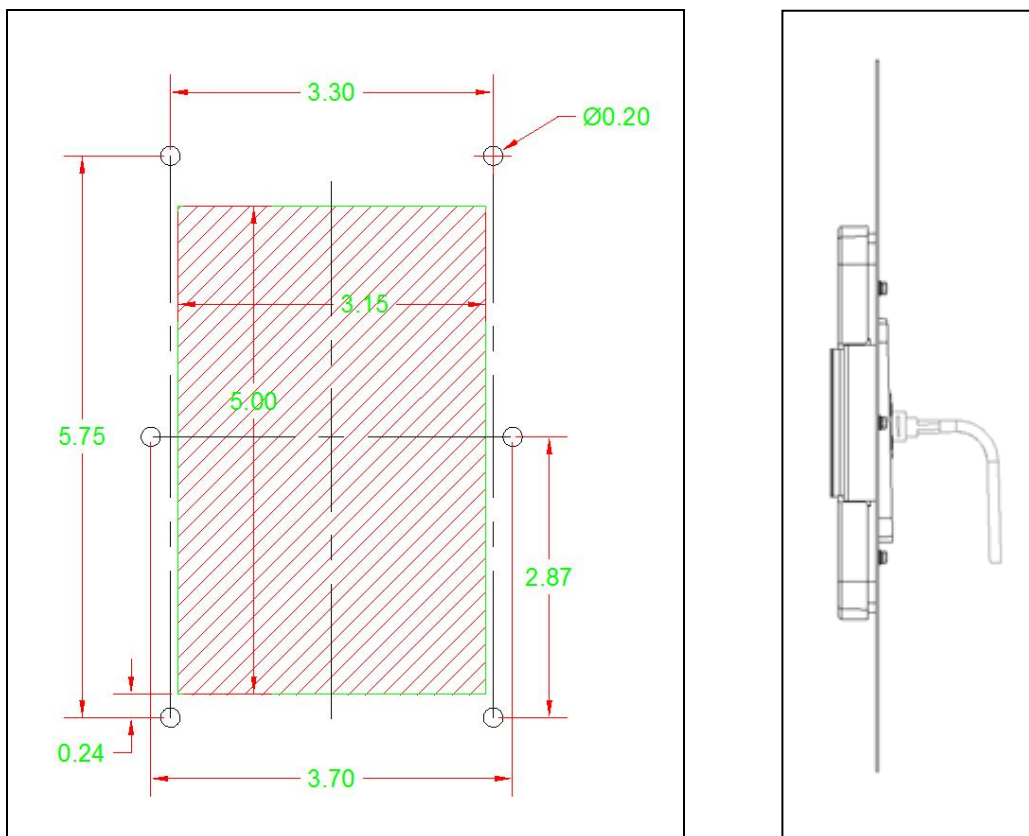

Figure 1. Cutout Drawing and Side Viewing
3. Create the cutout at the desired location on the panel as show in Figure 1.